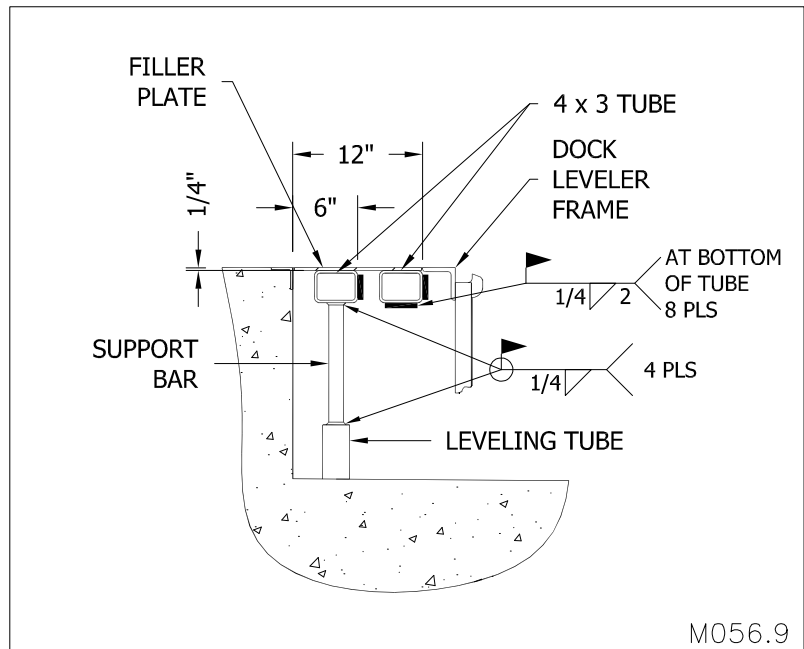

Figure 27: Welding the 4 X 3 Rectangular Tubing to the Curb Angles
4. ☐ Slip the levelling tubes over the support bars and lightly tack in place so that it does not fall off while inverting the rectangular tube as indicated in "Figure 27: Welding the 4 X 3 Rectangular Tubing to the Curb Angles" on page 24.
5. ☐ Position the 4 X 3 inch rectangular tubes as indicated in "Figure 27: Welding the 4 X 3 Rectangular Tubing to the Curb Angles" on page 24. Make sure the top surface of the rectangular tube is $\frac{1}{4}$ " below the top surface of the curb angle. This will allow the filler plate to be welded flush to the top surface of the curb angle.
6. ☐ Weld the ends of the rectangular tubing to the side curb angle as indicated in "Figure 27: Welding the 4 X 3 Rectangular Tubing to the Curb Angles" on page 24. Add vertical welds at the ends of the tube between tube surface and side curb angle surface.
8. ☐ Weld the levelling tubes to the support bars using full fillet welds as indicated in "Figure 27: Welding the 4 X 3 Rectangular Tubing to the Curb Angles" on page 24.